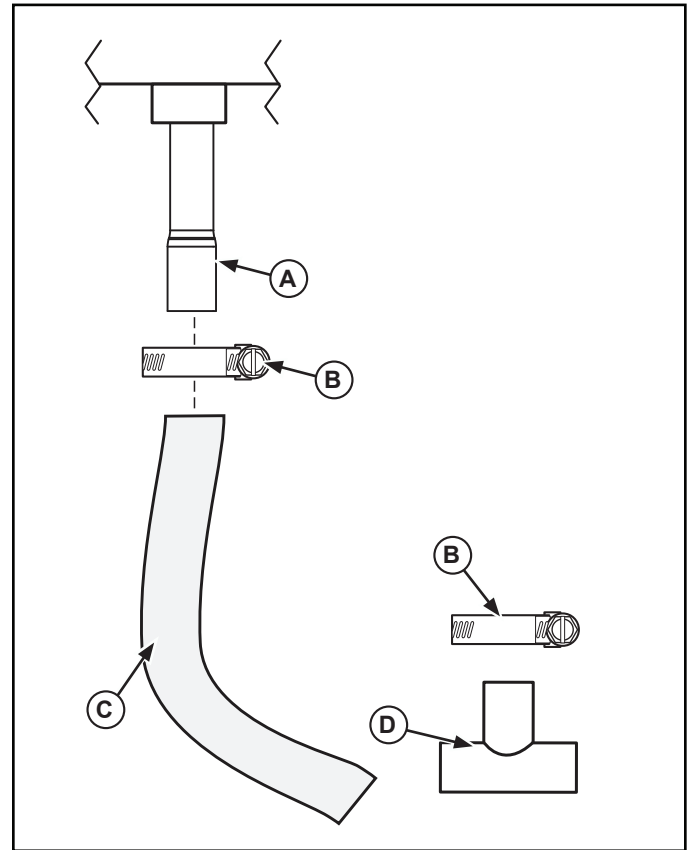

**Figure 6. Drain Tube, Clamp and "T" Fitting.**
17. Cut and install the drain tubing (C), "T" fittings (D) and clamps (B) as needed and route to drain. See Figure 6.